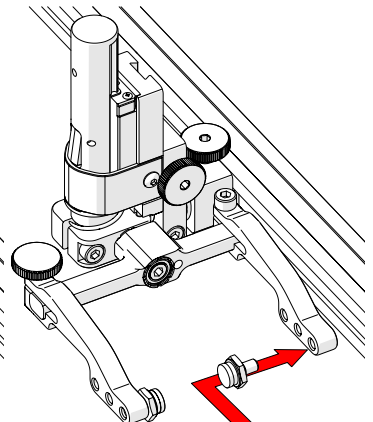

Fig. 105 - Place buttons
3. Position the pivot buttons where necessary. When a narrow scanning footprint is required, use the pivot button holes closest to the yoke (*Fig. 105*).